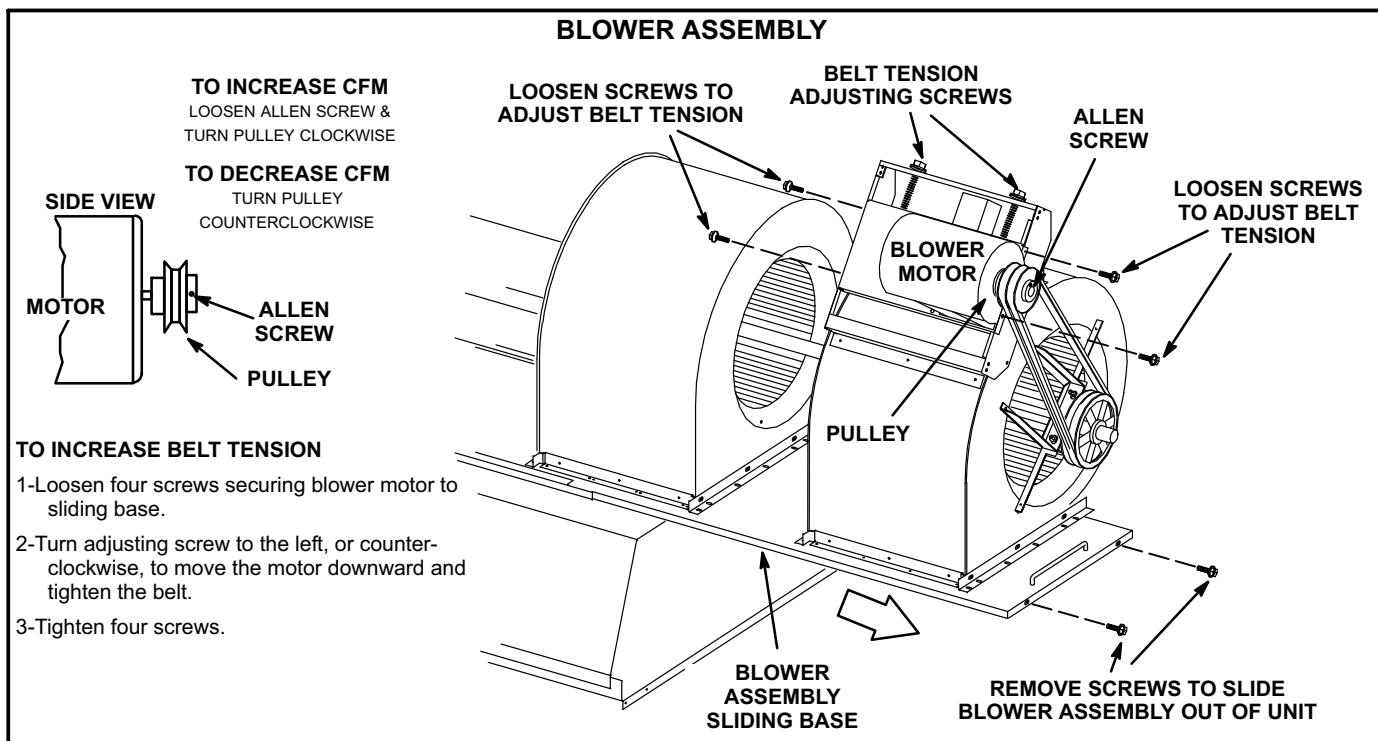

FIGURE 12
The blower compartment in all units is located between the evaporator coil and the compressor / control section on the opposite side of the condenser coil. The blower assembly is accessed by disconnecting the blower motor jack plug J98/P98 (and all other plugs) and removing the screws on either side of the sliding base. The base pulls out as shown in figure 12.
- 2- Remove screws on either side of blower assembly sliding base. See figure 12.
- 4- *Constant Air Volume (CAV) Supply Air Blowers* - The blower RPM can be adjusted at the motor pulley. Loosen Allen screw and turn adjustable pulley clockwise to increase CFM. Turn counterclockwise to decrease CFM. See figure 12. Do not exceed minimum and maximum number of pulley turns as shown in table 2.
- 1- Loosen four screws securing blower motor to sliding base. See figure 12.